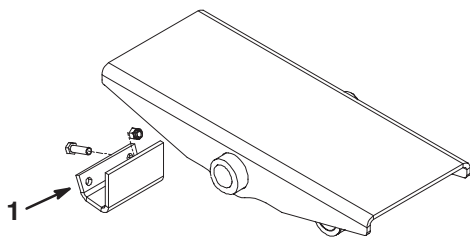

Figure 5
14. Mount an axle bracket stop to each of the remaining axle stop flanges with (2) 3/8 x 1-1/4 inch screws and 3/8 inch locknuts (Fig. 5).